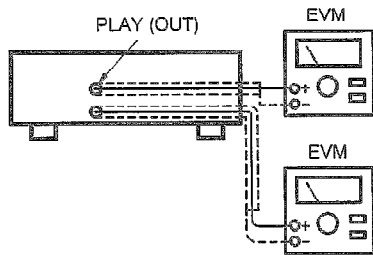

Fig. 10
1. Connect the measuring instruments as shown in Fig. 10.